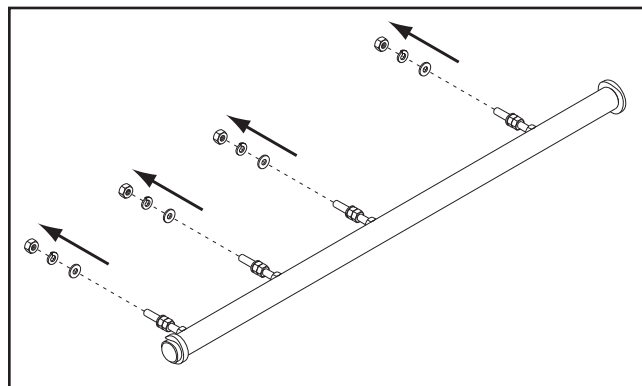

Figure 37. Hardware removed from fence rail studs to prepare for installation.
21. The fence rail is pre-assembled with four rail studs and accompanying hardware. Remove one hex nut, flat washer, and lock washer from the end of each stud, as shown in **Figure 37**.